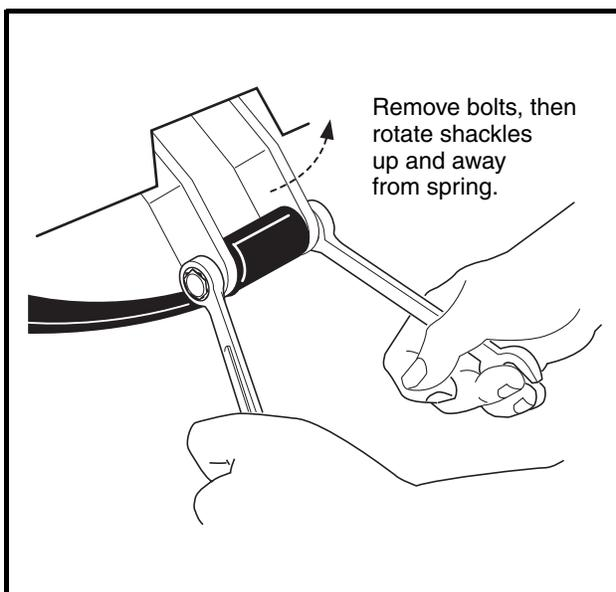

**Figure 16-20 Shock Absorbers**
6. Remove the lower shock mounting hardware from both rear shocks (**Figure 16-20, Page 16-11**).